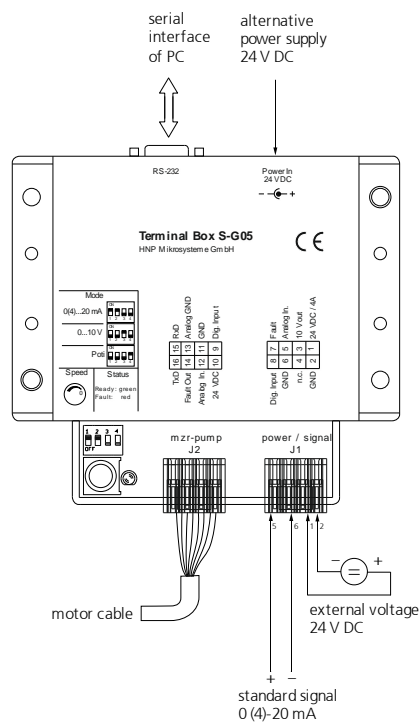

figure 18 Operation via an external 0 (4)-20 mA voltage
4. Connect the external current source to the screw clamps »AnalogIn« and »GND« to the S-G05. (see figure 18).